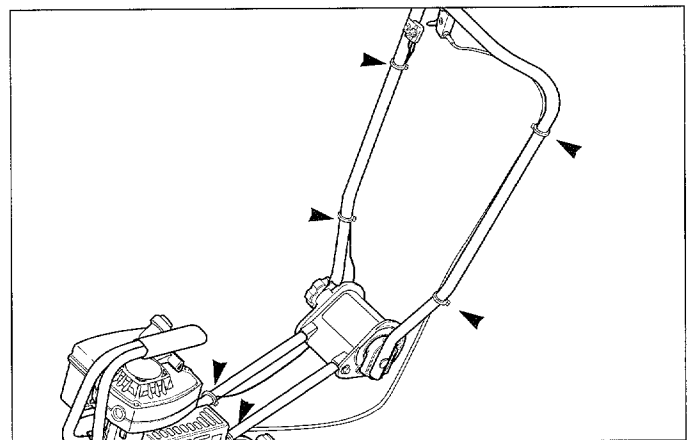

Figure 9: Plastic ties securing control cables to handlebars must be located in the positions shown by arrows.
- Check that all wires and cables are properly and securely connected. It is very important that the six plastic wrap-around ties on the handlebars be positioned as illustrated in Figure 9. The control cables they help secure must not be kinked or jammed in the handlebar.